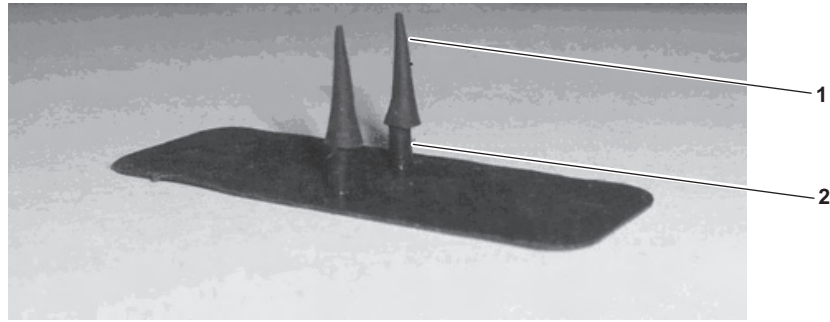

Figure 6-18. AV-3000® Inhalation Check Valve
- (3) Moisten the inhalation check valve tips (figure 6-18, item 1) and the stems (figure 6-18, item 2) with water.